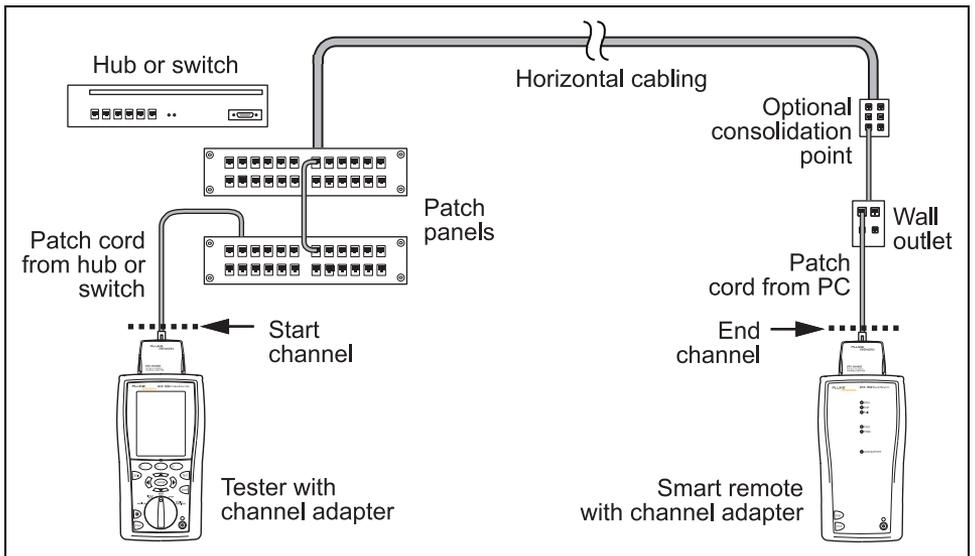

Figure 3. Channel Test Connections
- 3 Turn the rotary switch to **AUTOTEST** and turn on the smart remote. Connect to the cabling as shown in Figure 3 or 4.